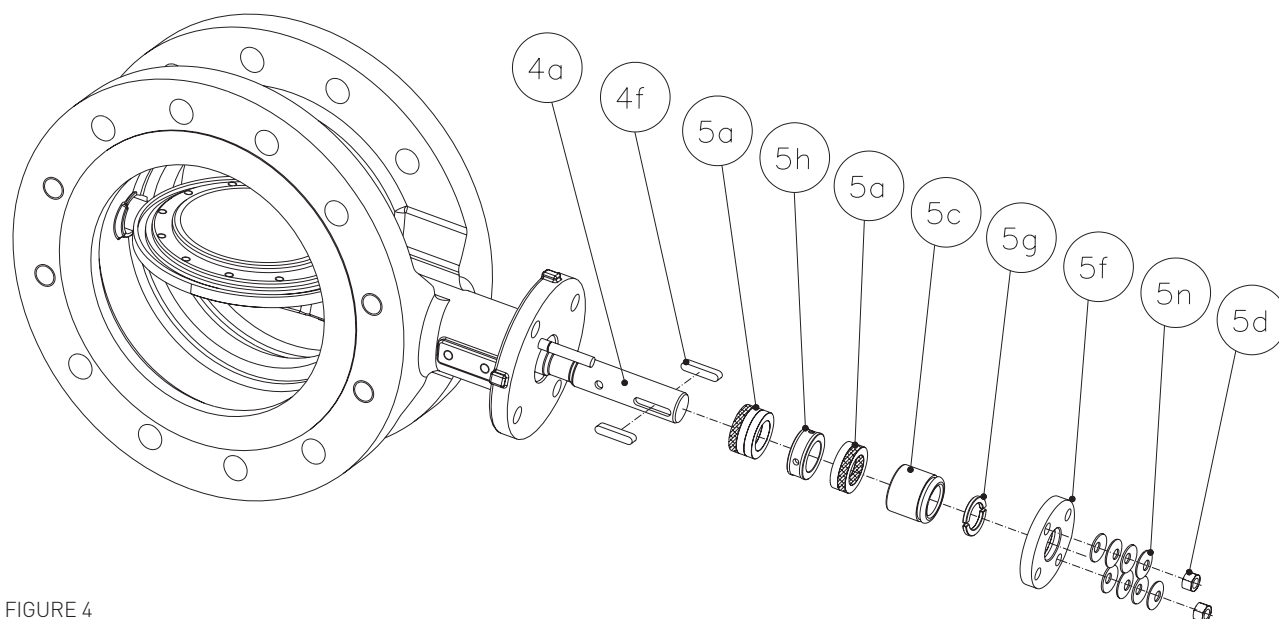

FIGURE 4
3. Ensure that the packing stud nuts against the packing flange cannot be loosened by hand (see figure 4, detail 5d, on page 6).
1. To prevent shaft leakage check the packing box (see figure 4, on page 6) tightening in accordance to table 1 on page 12 in order to restore the nominal torque. Be mindful that over-tightening will decrease packing component life and increase operating torque.
To replace the packing rings proceed as follows and refer to figure 4: